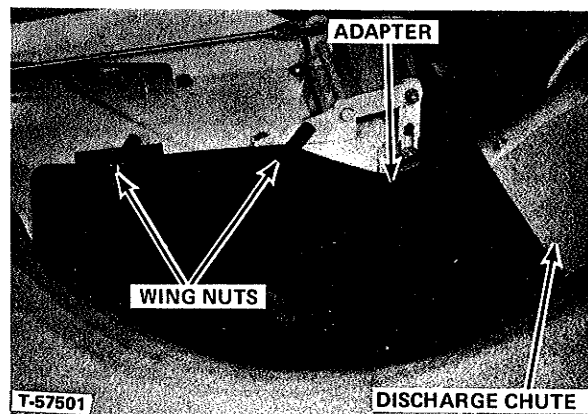

FIGURE 23
5. See Figure 23. Attach adapter to mower housing in place of previously removed discharge deflector. Use the two wing nuts to hold adapter in place.